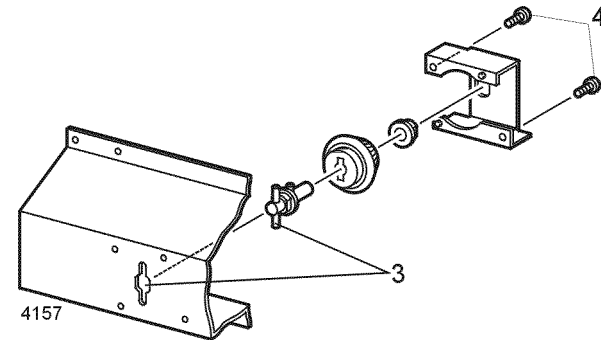

Figure 1 Drive Shaft Assembly
4. Remove the two screws that secure the Drive Shaft Bracket to the shaft cover (Figure 1).